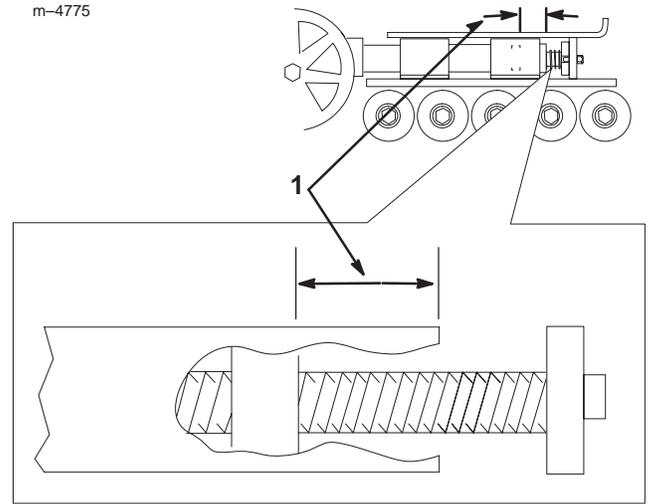

Figure 34
Check and adjust the track tension every 100 operating hours. There should be 2-3/4 in. (7 cm.) between the tension nut and the back of the tension tube (Fig. 34). If not, adjust the track tension using the following procedure:
4. Using a 1/2 in. drive socket (Fig. 36), turn the tensioning screw counter-clockwise until the distance between the tension nut and the back of the tension tube (Fig. 34) is 2-3/4 in. (7 cm.).
11. Turn the tensioning screw counter-clockwise until the distance between the tension nut and the back of the tension tube (Fig. 34) is 2-3/4 in. (7 cm.).